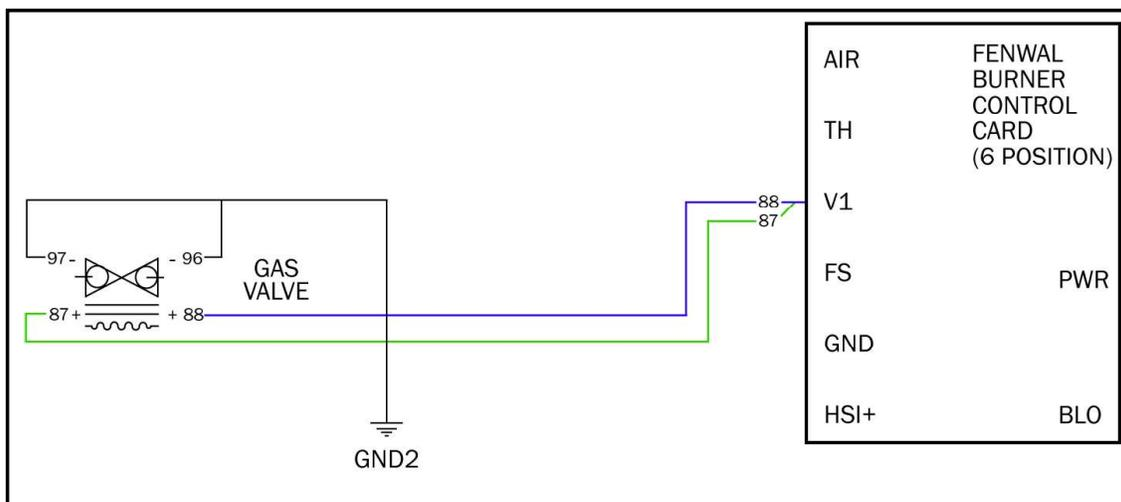

Figure 105
- Using a digital voltmeter, check the #87 (green) wire, on the white plug, pugged into the Propane Burner Controller for 12V DC (see Figure 105). If no voltage is present, replace the Propane Burner Controller.
- Using a digital voltmeter, check the #87 (green) wire, on the right side of the gas valve for 12V DC, and the #88 (blue) wire, on the left side of the gas valve for 12V DC (see Figure 105). If no voltage is present, inspect wire harness for damage.